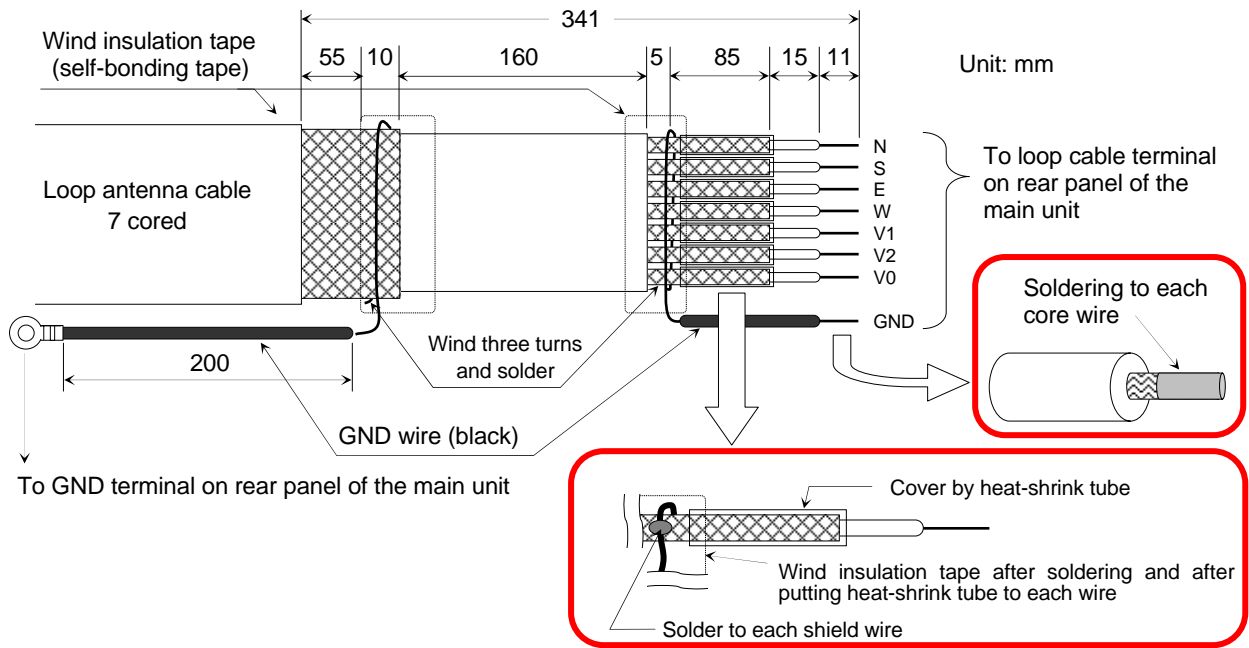
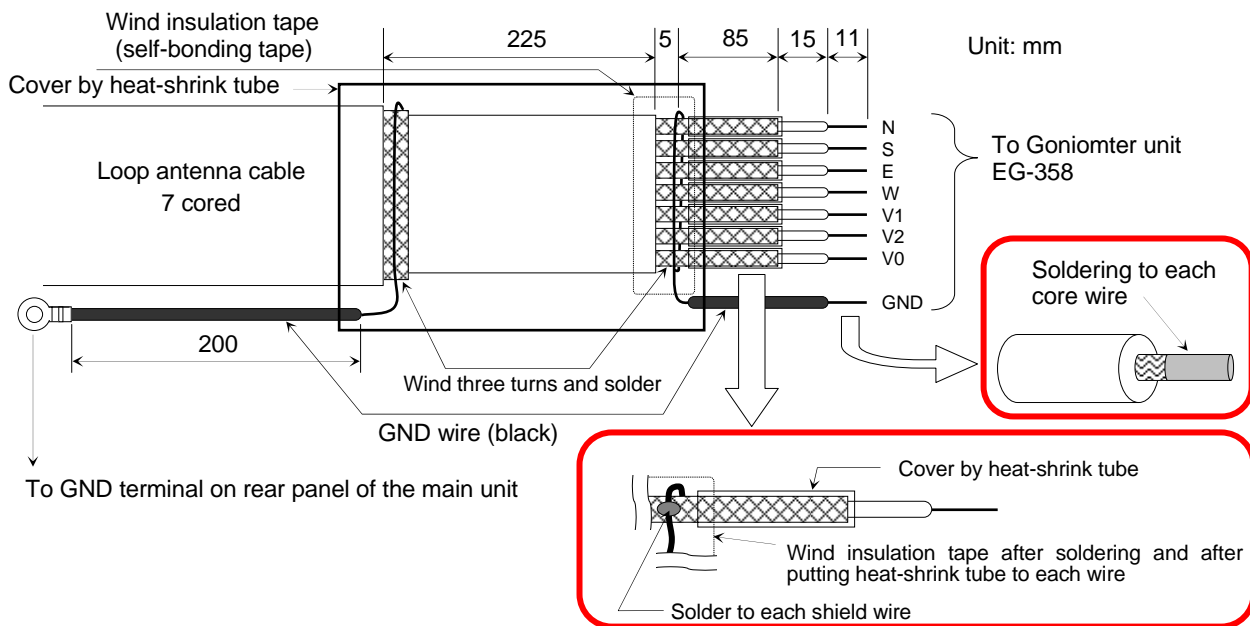

Fig. 3-12 Preparation of connecting loop antenna cable for TD-C358
Fig. 3-15 Preparation of connecting loop antenna cable for TD-C358K-MKII
Prepare one end of the loop antenna cable as shown in Fig. 3-12 for TD-C358 and Fig. 3-15 for TD-C358K-MKII when necessary.
- (1) Use heavy duty soldering iron to solder quickly.
- (2) Insert each core wire and GND wire to cable terminal on rear panel of TD-C358 main unit as shown in Fig. 3-12, 3-13 and 3-14.
Insert each core wire and GND wire to cable terminal on rear panel of TD-C358K-MKII main unit and on goniometer unit, EG-358MKII as shown in Fig. 3-15, 3-16, 3-17.